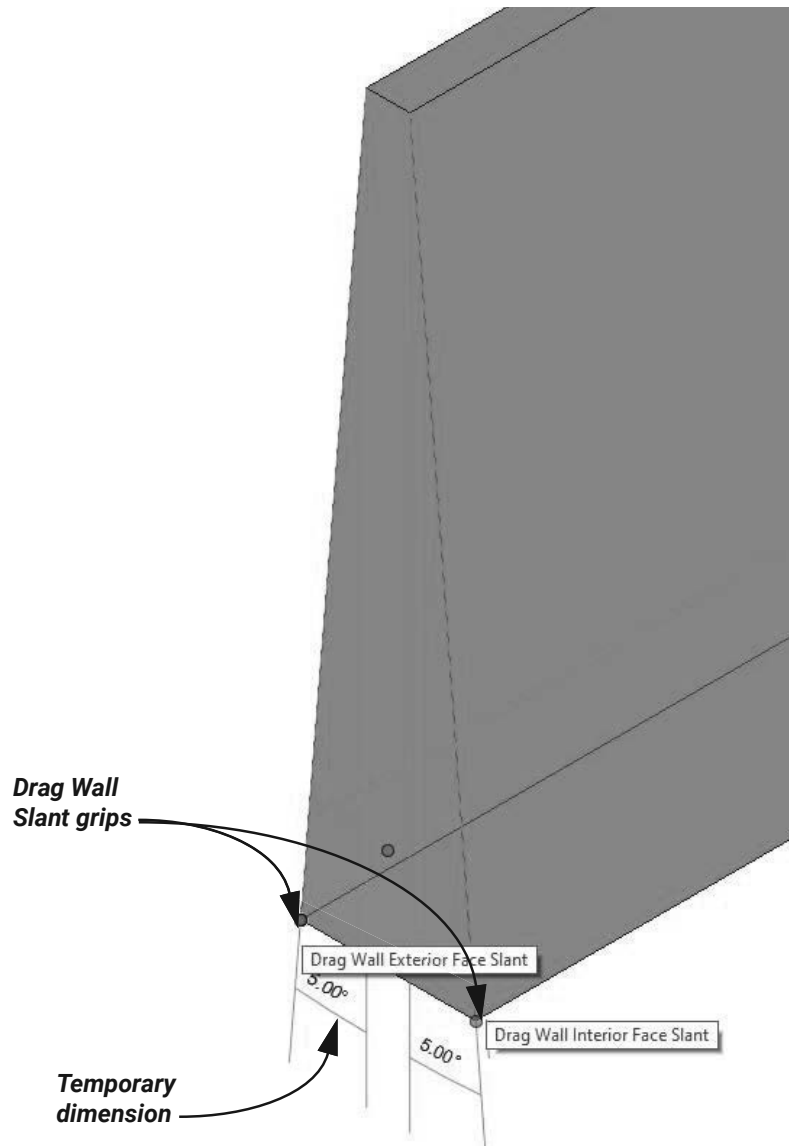

Figure 7-17
- When modifying a tapered wall, you have the ability to modify the Drag Wall Exterior Face Slant and Drag Wall Interior Face Slant grips or modify the temporary dimension in a 3D, section, elevation, or isometric view, as shown in Figure 7-17.